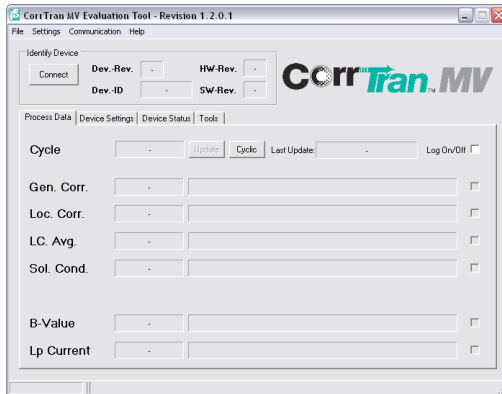

Figure 23. After Communication Opened
- Select 'Communication' > 'Open' from the tool. The 'Connect' button will become available as seen in Figure 23.
The process data tab, seen in Figures 23 and 24, allows you to view the most recent outputs from the CorrTran AQUA.